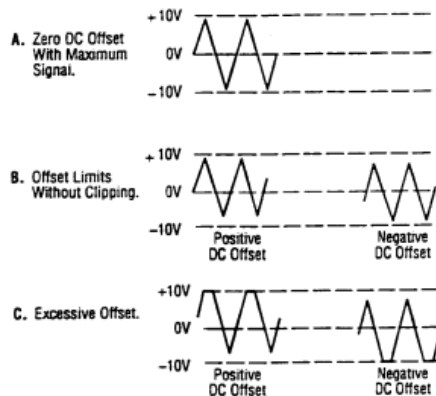

Figure 3. Use of DC OFFSET Control
7. A superimposed DC component can be added to the output signal by engaging the **DC OFFSET** switch (14) to enable operation of the **DC OFFSET** control (5). Rotation of this control adds a positive or negative DC component to the output signal. The DC component introduced is independent of the **OUTPUT LEVEL** control and can be varied by  $\pm 10$  volts open circuited or  $\pm 5$  volts into  $50 \Omega$ . The DC Offset does not affect the **TTL/CMOS** output jack. The effect of DC OFFSET is shown in Fig. 3.
- Remember that the output signal swing of the generator is limited to  $\pm 10$  volts open circuited or  $\pm 5$  volts into  $50 \Omega$ , and applies to the combined peak-to-peak signal and DC offset. Clipping occurs slightly above these levels. Fig. 3 illustrates the various operating conditions encountered when using the DC offset. If the desired output signal is large or if a large DC offset is required, an oscilloscope should be used to make sure that the desired signal is obtained without undesirable clipping.